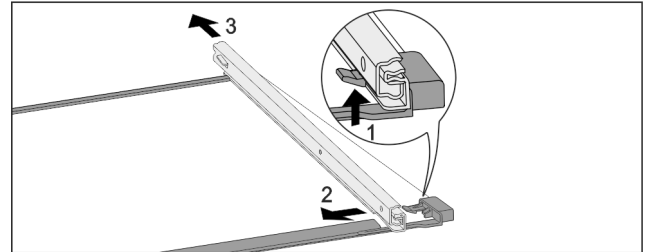

Fig. 233 Glass shelf with rails
- ▶ Push up front click-in hooks. Fig. 233 (1)
- ▶ Move the pull-out rails to the side Fig. 233 (2) and to the rear Fig. 233 (3).